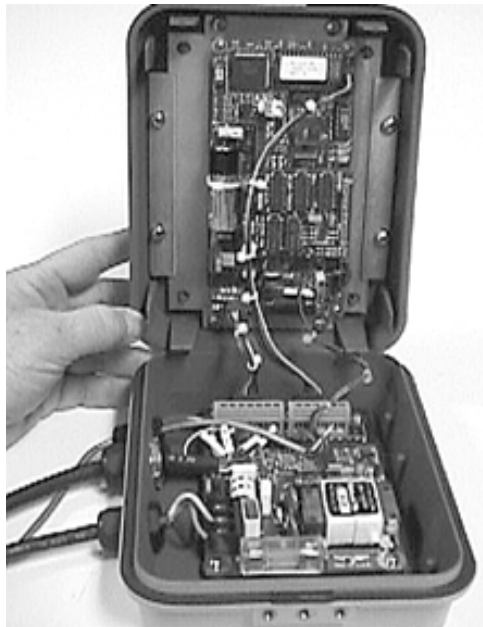

Figure 9
2. Open up the enclosure as shown in Figure 9 and remove the wires from their connection points on either board.